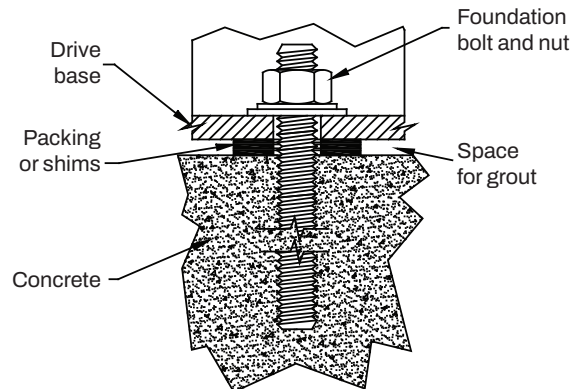

Figure 2 - Foundation Bolts Secured in Concrete
- Foundation bolts should be secured in the concrete as shown in Figure 2. Allow adequate length for the bolts. Foundation bolts can be placed in the concrete at the time the concrete is poured.